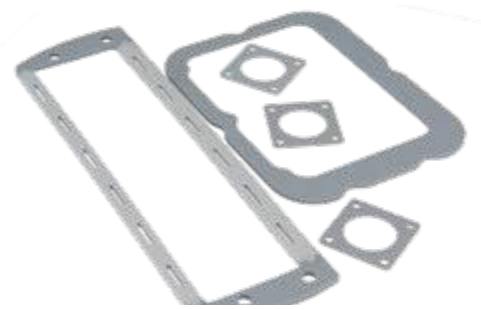

Figure 57 : Conductive rubber gaskets can be cut in any shape according to customer drawing
- 57 Watertight EMI gaskets in any shape** can be cut out of sheets of material like conductive rubber, or multi-shield with small conductive wires in the material. They have a compression of 10-15%. (Fig. 57)